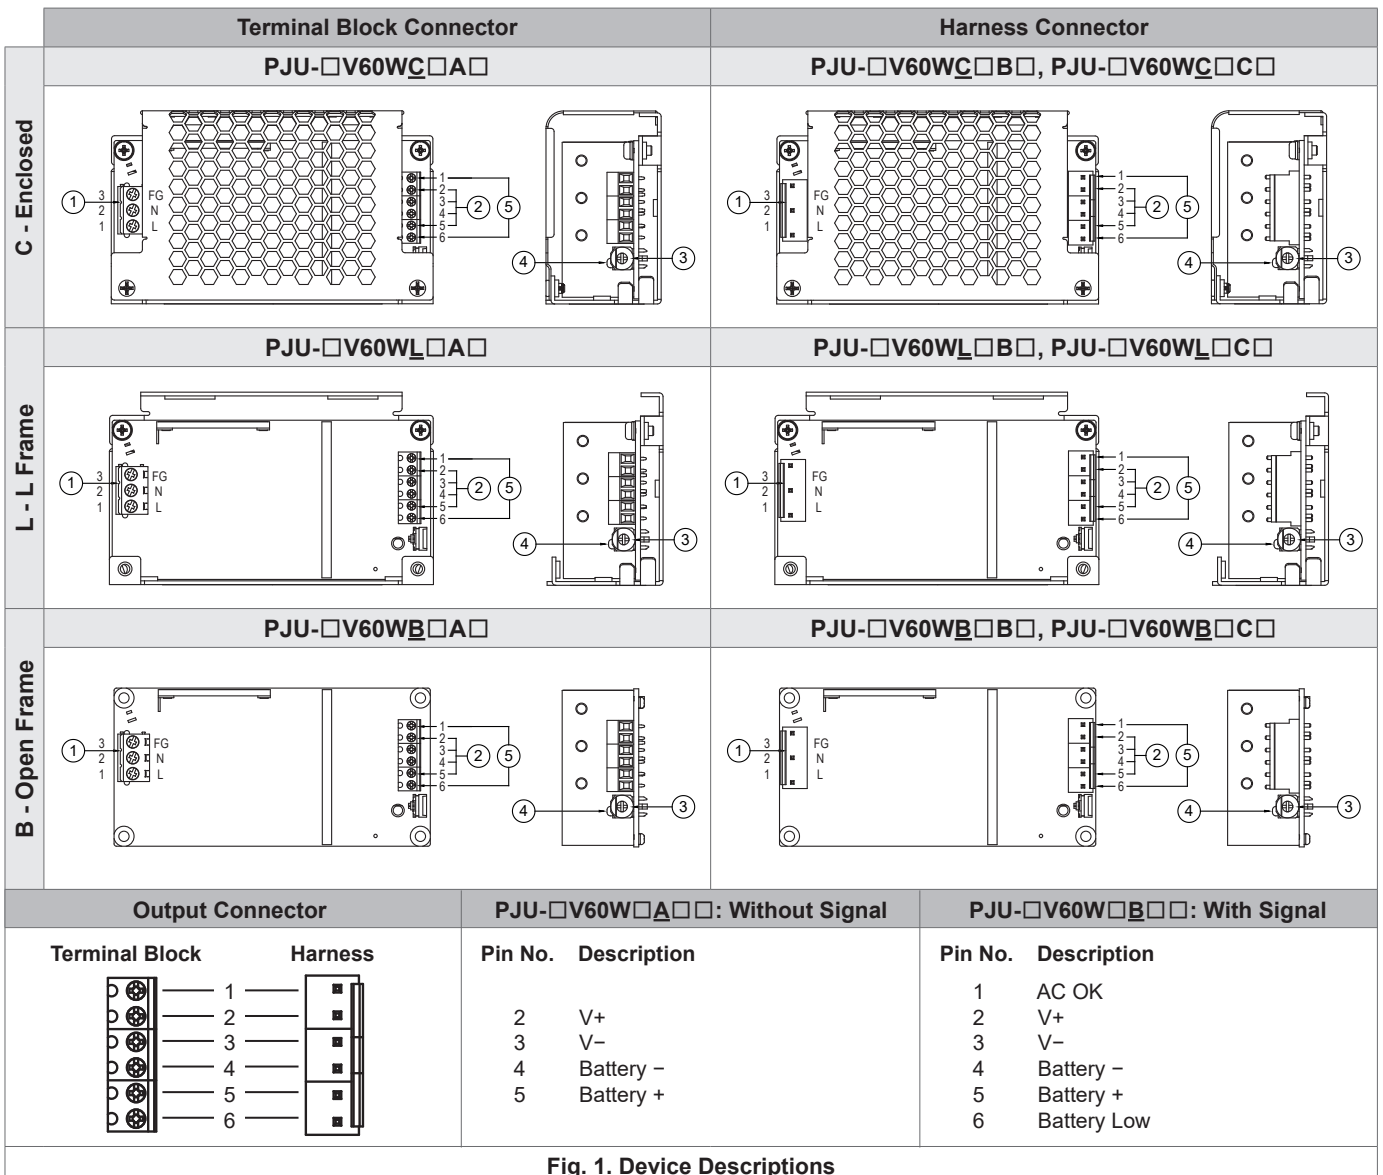

Fig. 1. Device Descriptions
- For open frame type of installation, ensure the power supply's Protective Earthing (marked Ⓑ in Fig. 3.1) is connected to the system's Protective Earthing (PE). It is also recommended that the input FG (Fig. 1, ①) be connected to the system's PE.
► PJU-60W (Refer to Fig. 1)
- ① Input connector
- ② Output connector
- ③ DC voltage adjustment potentiometer
- ④ DC OK control LED (Green)
- ⑤ Signal connector (for PJU-□V60W□B□□ only)